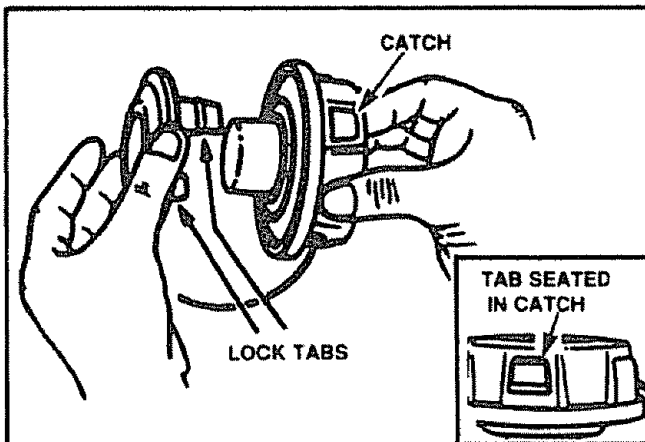

Figure 28
- Align the lock tabs on the cover over the catches on the hub. Push the cover down onto the hub until the parts snap together. Figure 28.